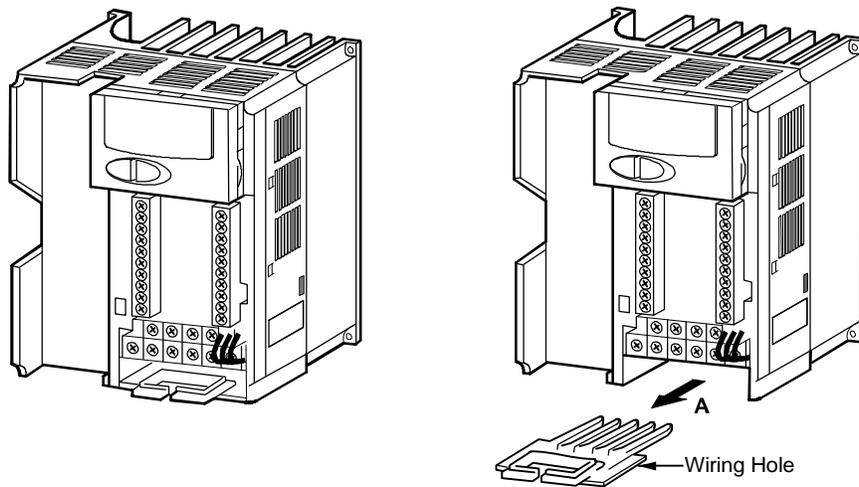

Figure 10: Remove the High-Voltage Wiring Cover
2. Remove the high-voltage wiring cover at the bottom of the VFD68 drive by pulling in the direction of Arrow A (Figure 10).